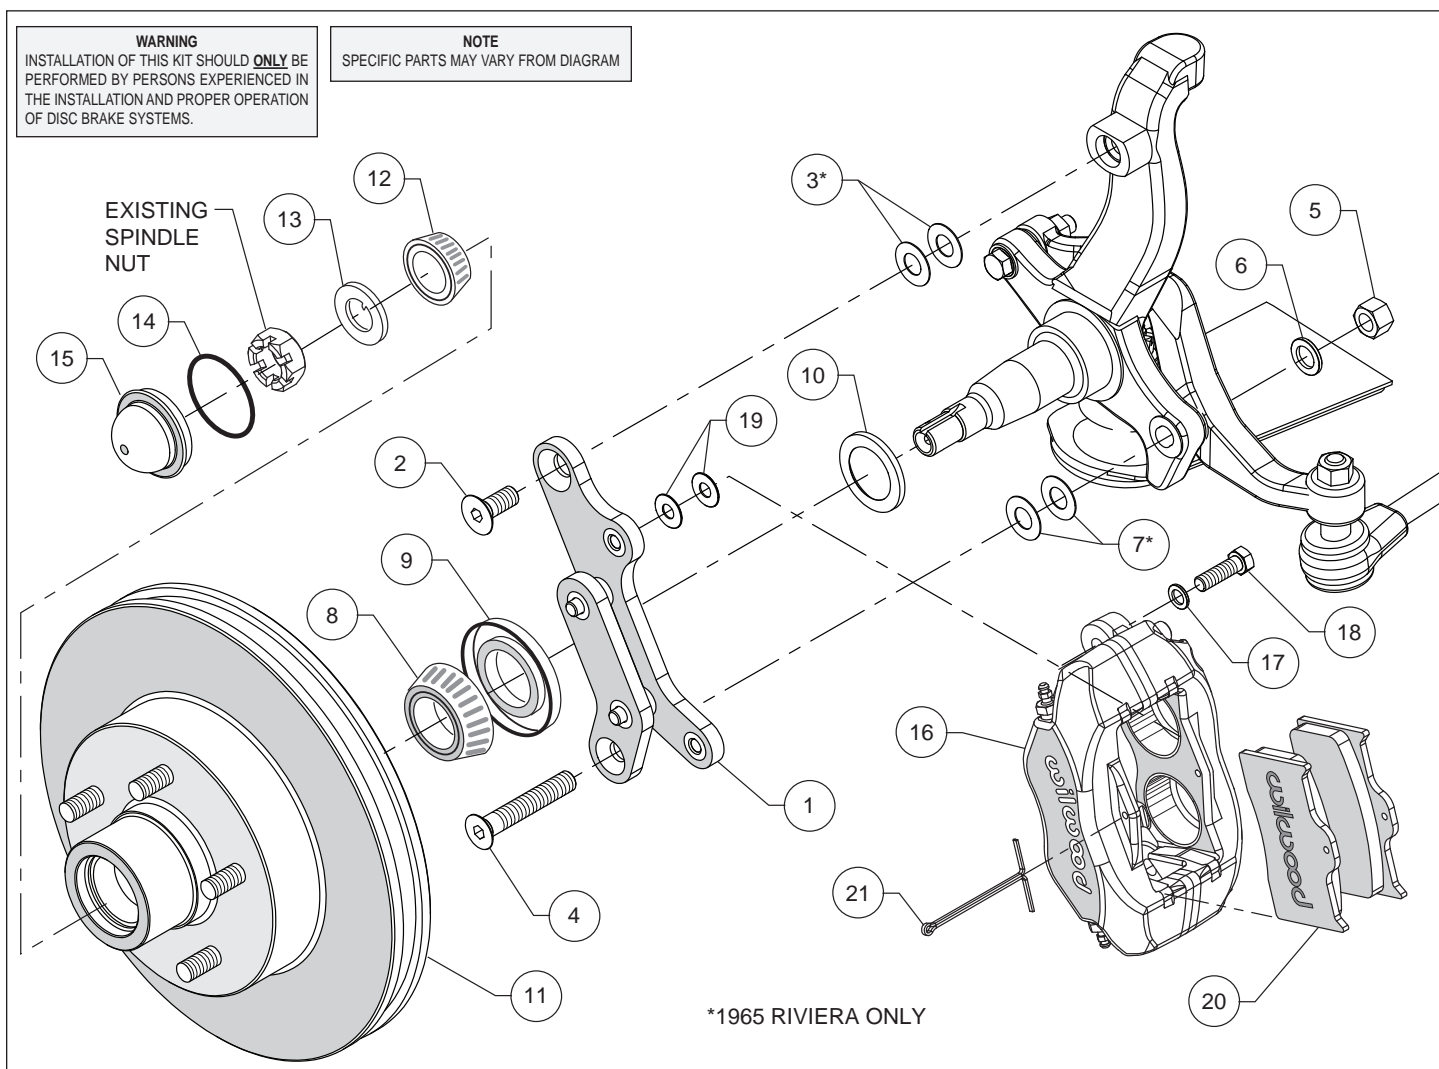
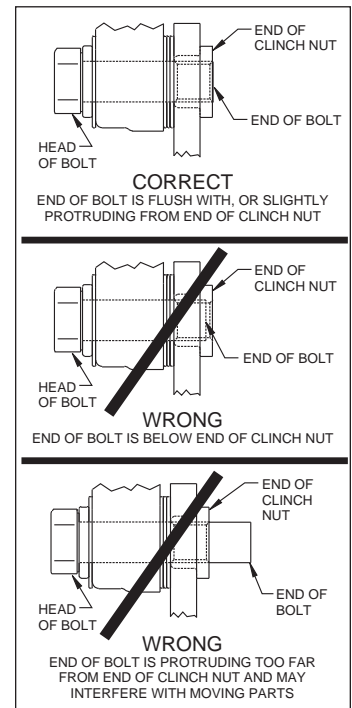

Figure 1. Typical Installation Configuration
Figure 3. Clinch Nut Engagement Diagram
**Assembly Instructions** (numbers in parenthesis refer to the parts list, on the preceding page and Figure 1): **CAUTION:** All mounting bolts must fully engage clinch nuts. Be sure to check that all bolts are either flush or protruding through flanged side of clinch nut after shimming, Figure 3.
- The caliper mounting bracket (1) has been assembled at the factory for alignment purposes. Loosen the two bolts that secure the brackets together so that the bolts are hand tight only, this will enable the bracket assembly to be adjusted to accommodate various spindle tolerances during assembly. Orient the caliper mount bracket as shown in Figure 1, and install using bolts (2 and 4), nuts (5), and washers (6), Figure 1. **NOTE:** Shims (3 and 7) are to be used only on 1963-1965 Riviera applications, Photo 1. Ensure that the flanged heads of the clinch nuts in the bracket are facing outboard. Temporarily tighten the mounting bolts. **NOTE:** The bracket must fit squarely against the mount bosses on the upright. Inspect for interference from casting irregularities, machining ridges, burrs, etc.
- Pack the small outer bearing cone (12) with high temperature disc brake bearing grease and install into hub (11). Slide the hub/rotor onto the spindle. Secure using spindle washer (13) and OEM spindle nut. Adjust bearings by tightening the wheel bearing nut to 60 **in-lbs.** while turning the hub/rotor assembly. Back off the adjusting nut one slot and install a new cotter pin (not supplied). **The resulting adjustment should be zero (no pre-load to 0.003 inch end play).**
- Install the o-ring (14) onto the dust cap (15). Press the dust cap into the hub (11).
- NOTE:** Please reference the caution statement at the beginning of the assembly instructions. Mount the caliper (16) onto the caliper mounting bracket (1) using bolts (18) and washers (17), as shown in Figure 1. Initially place two .035" thick shims (19) on each bolt between the caliper and the bracket, Photo 4. Temporarily tighten the mounting bolts and view the rotor (11) through the top opening of the caliper. The rotor should be centered in the caliper, Photo 5. If not, adjust by adding or subtracting shims between the bracket and the caliper. Always use the same amount of shims on each of the two mounting bolts. **NOTE:** The end of each bolt must be flush with or slightly protruding from the head of the clinch nut, as shown in Figure 3. If necessary place spare shims between washer (17) and caliper mounting ear to achieve the proper clinch nut engagement. Once the caliper alignment and clinch nut engagement are correct, remove the bolts one at a time, apply red *Loctite*® 271 to bolt threads, and torque to 40 ft-lb.